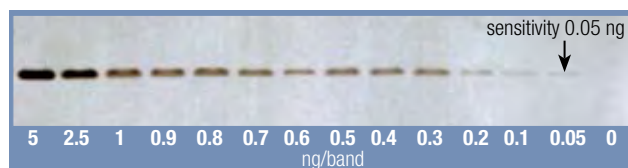

Figure 8.10. High sensitivity of staining with PageSilver™ Silver Staining Kit.
The PageSilver™ Silver Staining Kit is a complete system for extremely sensitive and rapid staining of protein, DNA, RNA in polyacrylamide gels. The procedure is based on the use of silver nitrate to bind proteins at a weakly acidic pH and subsequent reduction of silver ions to metallic silver by formaldehyde at an alkaline pH (1, 2, 3). The staining procedure is fast, simple and can be completed in approximately 60 minutes with very little hands-on time. All components of the PageSilver™ Silver Staining Kit are optimized for maximum sensitivity of protein staining (Fig.8.10) with a clear background (Fig.8.9). As little as 0.05-0.6 ng of protein per band can be visualized. This reflects a >100 times higher sensitivity compared to traditional Coomassie Brilliant Blue R250 staining and allows for superior detection of low abundance proteins.
- **High sensitivity** – 0.05 ng of protein per band can be detected (Fig.8.10) when the conventional protocol is used (p.406).